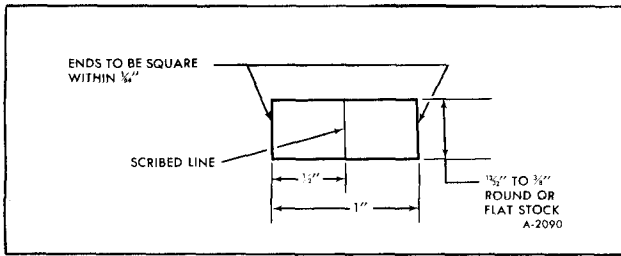

Figure 24-Vacuum Modulator Test Gage
3. **Bellows Comparison Check.** Make a comparison gage, as shown in Figure 24, and compare the load of a known good Hydra-matic modulator with the assembly in question. Modulator Tension Tester such as J-24466 may also be used for this purpose.